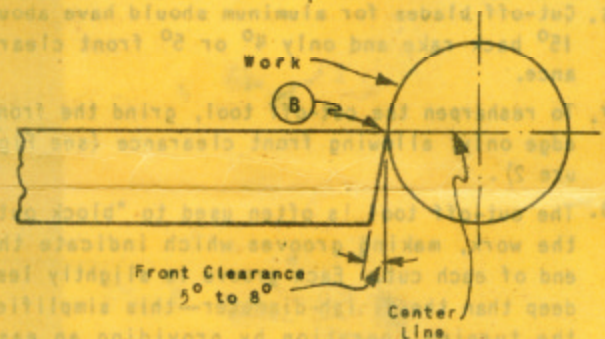
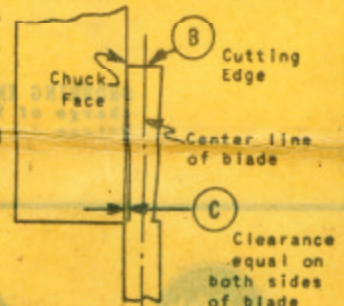

FIG. 2 Side view of blade showing front clearance and correct setting of blade to work.
FIG. 3 Using chuck to correctly align blade.
In setting the cut-off blade to the work, the cutting edge "B" must be set exactly on center line. See Figure 2. The centerline of the blade (Figure 3) must be parallel with the face of the chuck or face plate. This can be checked as follows: Position the blade to rest against the face of the chuck or face plate, letting cutting edge "B" touch the face of the chuck or face plate, and leaving a small amount of clearance at "C". Place the shank of the cut-off tool as far back into the tool post as possible to minimize overhang.
1. Set the cutting edge of the tool on the lathe center line. The tool blade should be at an exact right angle with the work (Figure 3).
7. To resharpen the cut-off tool, grind the front edge only, allowing front clearance (see Figure 2).